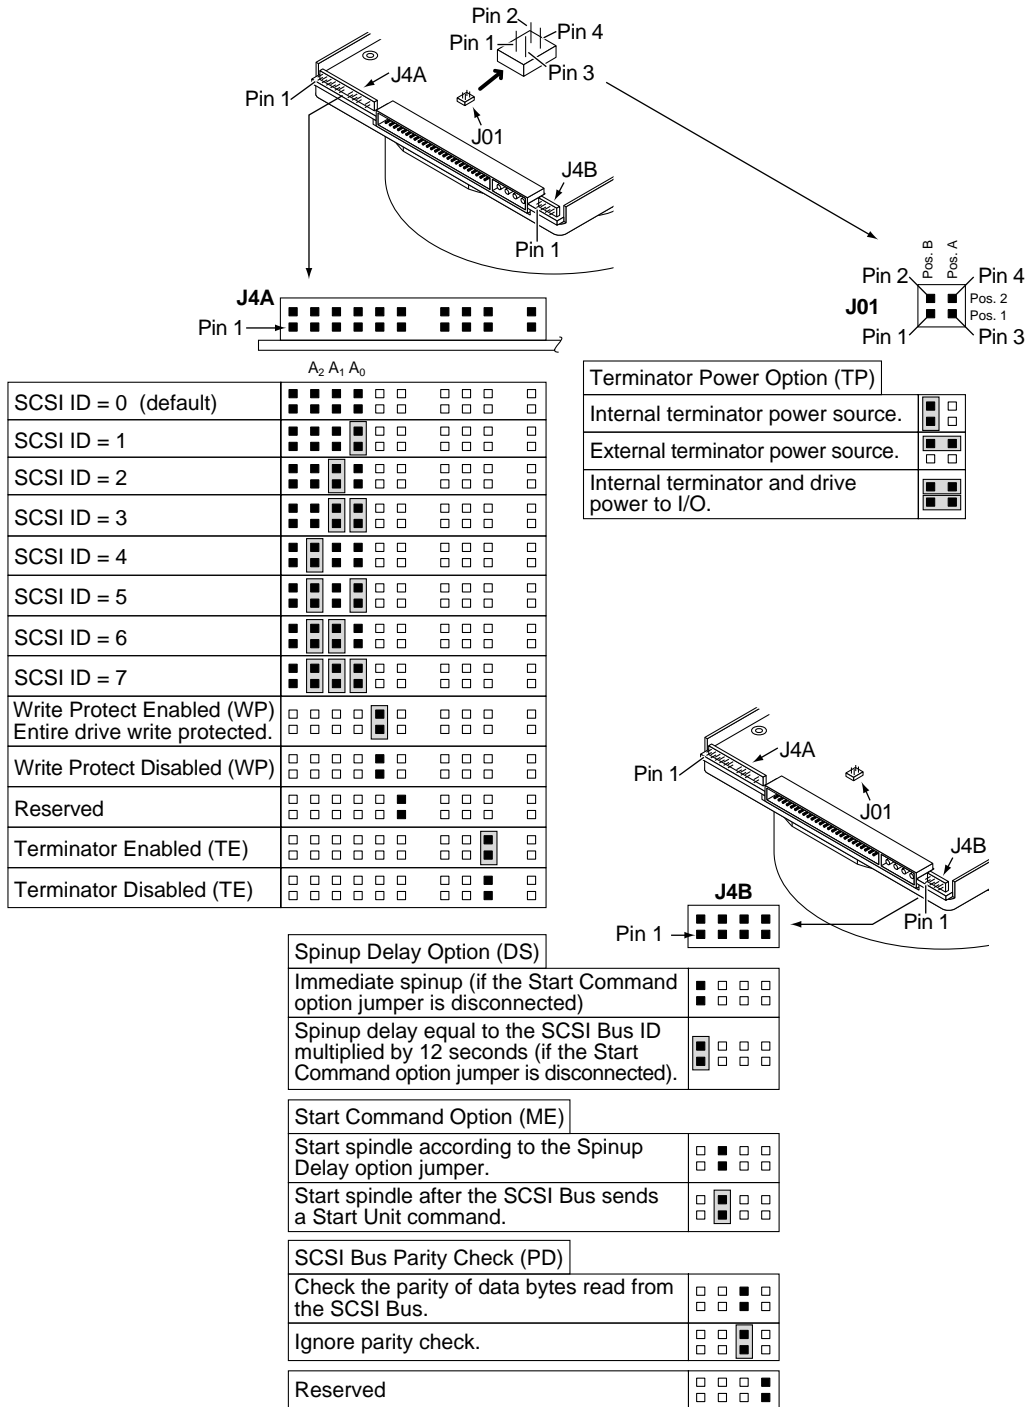

Figure 8. ST423451N option select jumper connectors
For option jumper locations and definitions refer to Figures 8, 9a, and 10a. Drive default mode parameters are not normally needed for installation. Refer to Section 9.3.2 for default mode parameters if they are needed.
Figures 8, 9a, and 10a show views of the drive ID select and option select jumper connectors. The notes following the figures describe the functions of the various jumper positions on the connectors J01, J4A, and J4B.
8.1.1 Notes for Figures 8 through 10b